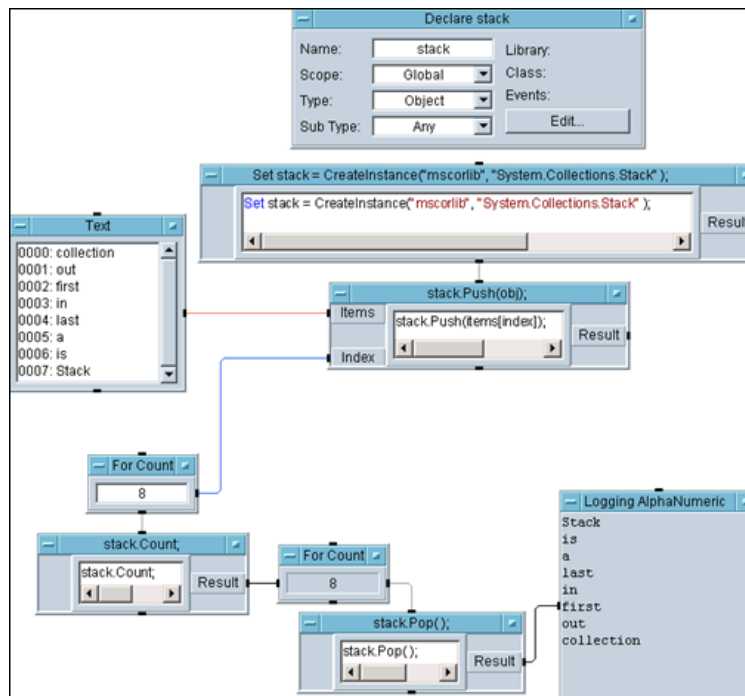

Figure 4-12 Modified Stack Example after running
- 4 Run this program; it should look like Figure 4-12; note that the stack output is the reverse of the Text icon.